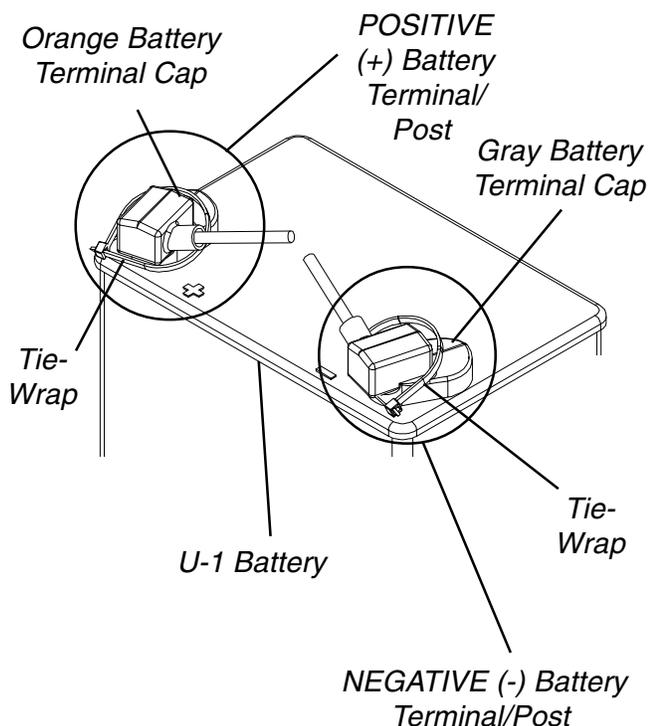

FIGURE 9 - SECURING TERMINAL CAPS TO BATTERY TERMINALS/POSTS
1. Connect battery cable(s) to battery(ies) terminal(s)/post(s) as shown in FIGURE 9.
SECTION G - SECURING TERMINAL CAPS TO BATTERY TERMINALS/POSTS (FIGURE 9)